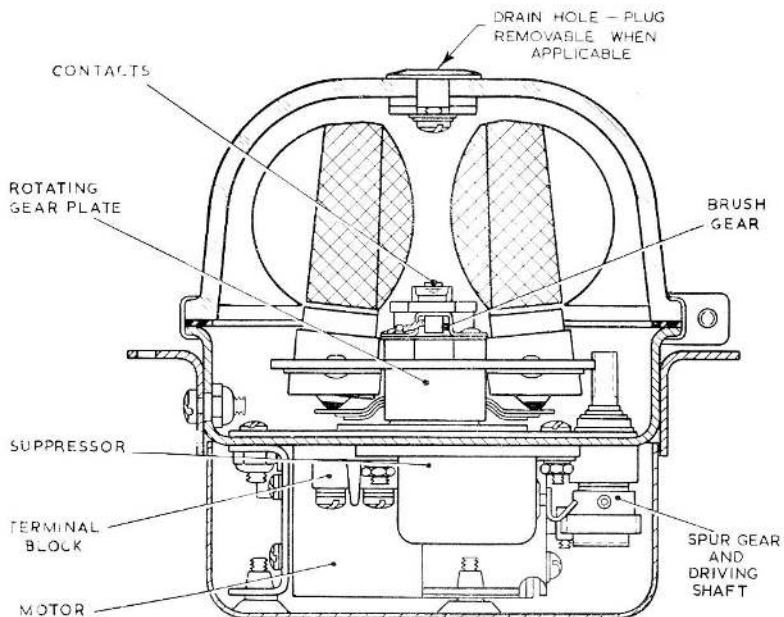

Fig. 1. Sectional view of typical lamp
2. The lamp (shown in fig. 1) consists of the motor and driving shaft, and the gear plate, which are mounted on the mechanism mounting plate. The driving motor is mounted on the underside of the mounting plate and is enclosed by the bottom cover. The gear plate which accommodates the filament lamps, rotates on a spindle on the